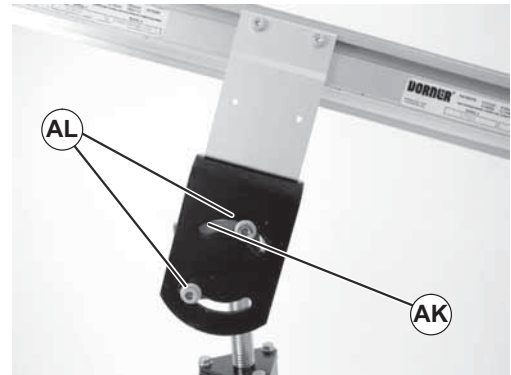

Figure 24
<p>To rotate stand, screws (Figure 24, item AL) may need to be re-located to other holes in the stand top end plate (AK).</p>
1. Loosen flange socket screws (Figure 24, item AL) on both sides of stand.
Failure to secure screw (Figure 24, item AB) may cause conveyor sections to drop down, causing severe injury.